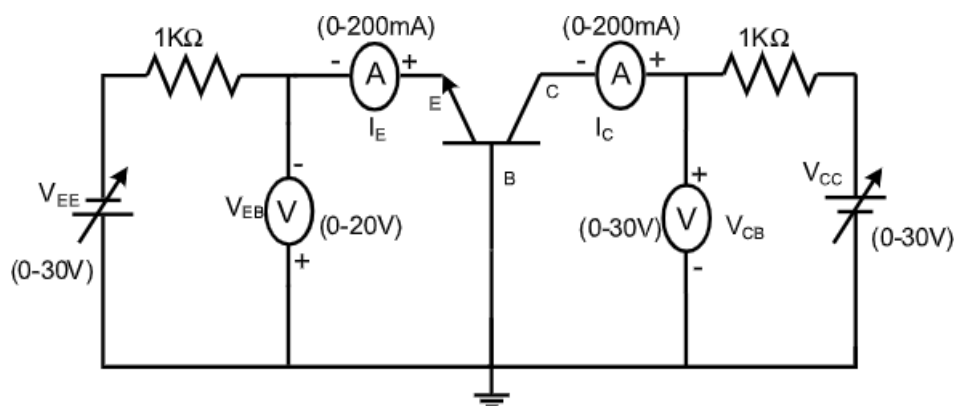

Fig 3.1. Circuit Diagram for transistor as common base configuration
3.1 Verification of input and output characteristics of CB Configuration using hardware shown in Fig 3.1 and draw the Waveforms